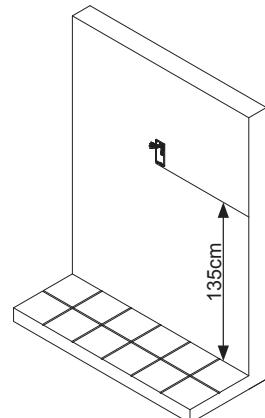
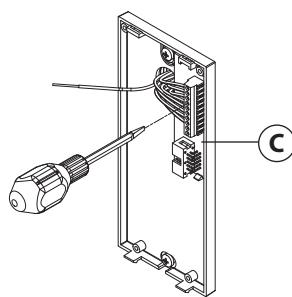

Fig. 3
Fig. 2
- Place the back plate of the intercom against the wall at approximately 135cm (**Fig. 2**) above finished floor level, then mark the fixing holes taking into account that the cable group **A** must feed into the opening **B** (**Fig. 3**).
- As shown in **Fig. 3**, fix the back plate of the intercom to the wall feeding the cable group **A** through opening **B**.